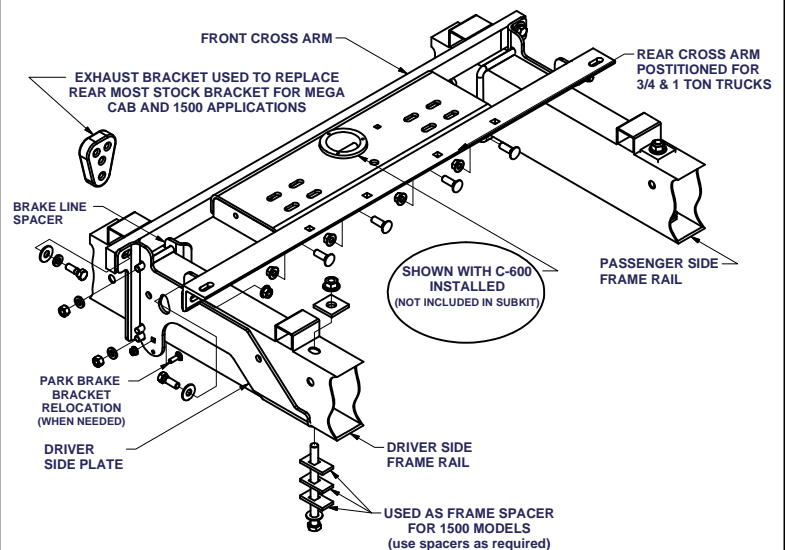

FIGURE 2
- 4) Install the rear cross arm using the clearance notch with the angle oriented in an inverted V position. **On 2006 and newer 1/2 ton models**, the angle leg with the notches should face the front of the truck when installing through the notch. Slide the cross arm through until it is resting on the truck frame on both sides. Push the rear cross arm towards the back of the truck against the truck bed rail, then rotate it so that the leg against the bed frame is facing the rear of the truck. (As shown in **Figure 2**)
- 5) Raise the center section in position between the cross arms **with the center hole towards the front of truck**. The round hitch receiver that protrudes from the top of the center section must fit through the hole in the truck bed. Using (4) 1/2" bolts, washers, and lock washers, attach the center section to the threaded holes in the front cross arm. Next, attach the rear cross arm (angle iron) to the center section using (4) 1/2" carriage bolts and flange nuts. (**Finger tight only**.)
- 7) Square the center section and cross arms across the frame. Thread a 1 1/2" bolt with a flat and lock washer through the front flange of the sideplate into the front cross arm. Place a 1 1/2" bolt with a flat washer through the back flange of the sideplate into the rear cross arm. (As shown in **Figure 2**) **Finger tight** with a 1/2" flange nut. (**REPEAT FOR OTHER SIDE.**)